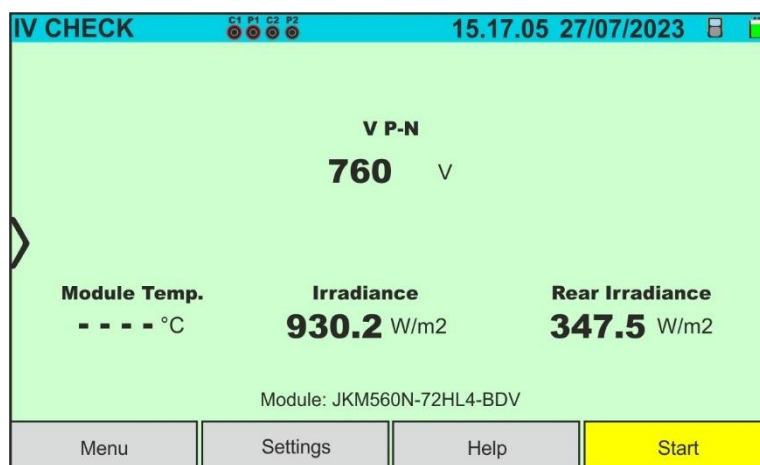

Fig. 66: Initial IVCK test screen without remote unit on Bifacial modules
5. In the case of **Bifacial** modules, the screen of Fig. 66 is present on the display. The following parameters are shown: